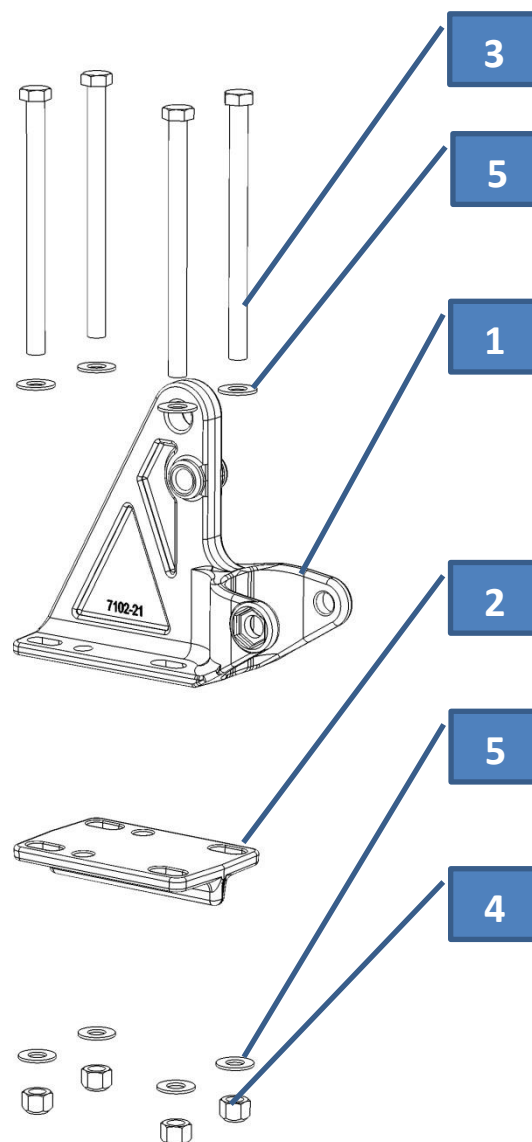

Figure 1 - TOWER MOUNT
Refer to *Figure 1* for this step. Locate the two tower mounts (#1) and the tower mount plates (#2).
1. Secure the towers (#1) to the swather's rear axle on the left and right sides. Check that the hole pattern on the top of the tower is oriented as shown on *Figure 1*. As well, ensure the tower mount plate (#2) is oriented as shown. Bolt each tower onto the axle using the tower mount plate (#2) and four (4) of the supplied 5/8" x 9" bolts (#3) and 5/8" locknuts (#4). Place 5/8" SAE washers (#5) between the bolt head and the mount, and again between the plate and nut. Do not tighten; Leave the nuts loose enough to position the tower prior to final assembly.